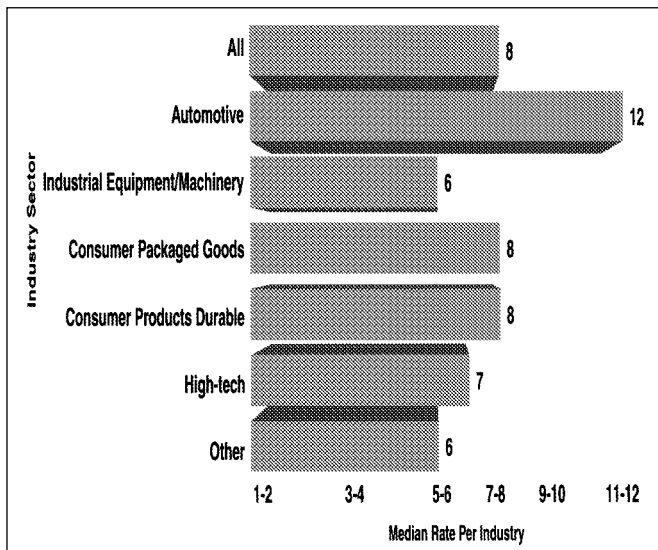

Figure III-1.7 Annual Inventory Turn Rate Can Be Significantly Improved through Better Collaboration
- *Automotive/industrial products.* In this sector, collaborative inventory strategies such as cross docking with suppliers result in a significant reduction in inventory levels. The survey shows that inventory turns for the top quartile exceed 40 turns for those using cross docking versus 25 turns for the entire automotive response (see Figure III-1.7). Similarly, inventory turns for the top quartile of the industrial products industry exceed 13 for those using cross docking, compared with 10 for the entire industry response.